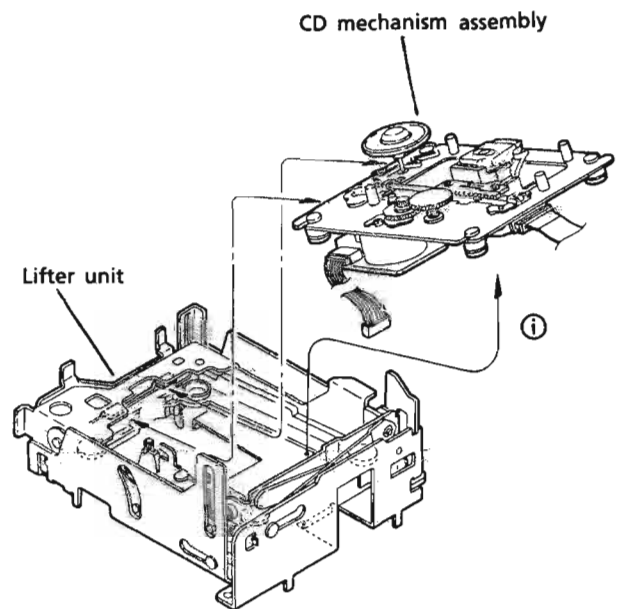

Fig. 31
2. Lift the CD mech. ass'y toward the direction (i) to remove it from the lifter unit. (See Fig. 31.)